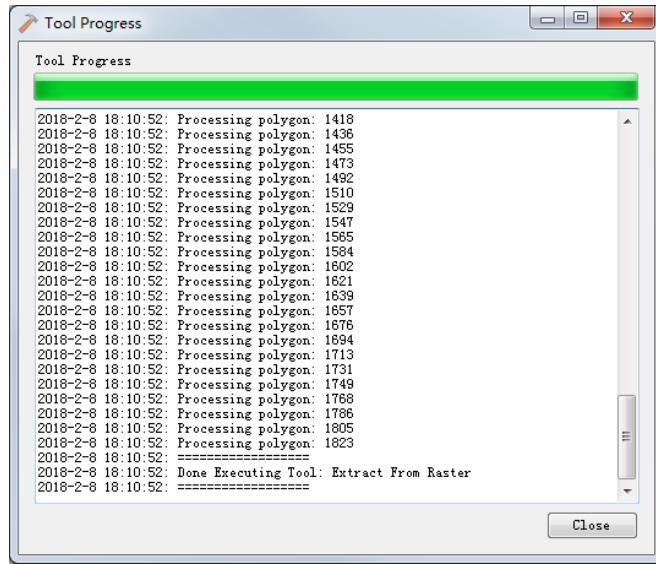

Figure 5-19. Tool Progress dialog
- 4) Click to run the tool. A dialog entitled “Tool Progress” will appear to show the running progress (Figure 5-19). When running is finished, click Close in the dialog.